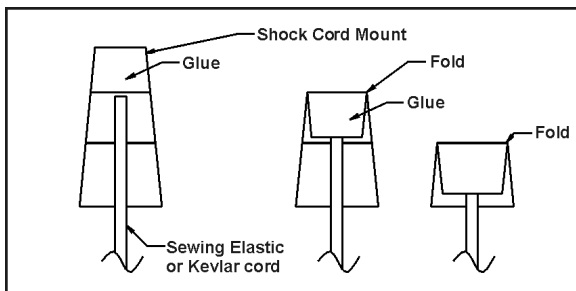

Figure 16
17. For a Shock Cord, you can use either an 18" length of sewing elastic or 24" length of 35# Kevlar cord. Cut out the Shock Cord Mount and glue the Shock Cord into it as shown in **Figure 16** by applying glue as shown and folding the Shock Cord Mount over the Shock Cord twice, to trap it inside.